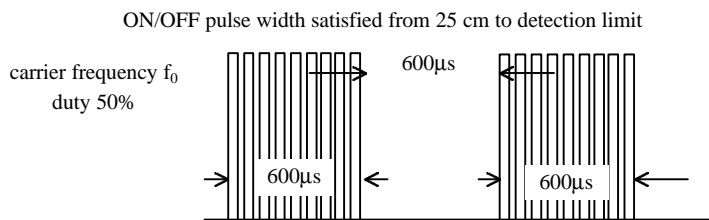

Fig 1. Burst Wave
(3)Standard transmitter ...Burst wave indicated in Fig 1. of standard transmitter